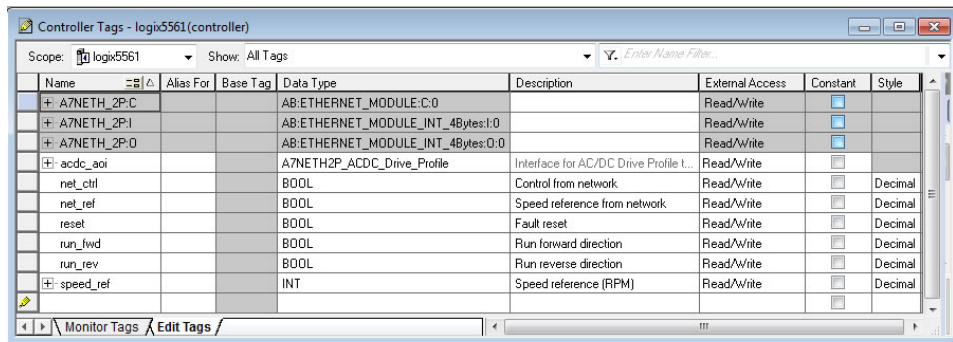

Figure 52: Create AC/DC Drive Profile AOI Tags
- Create the tags shown in Figure 52.